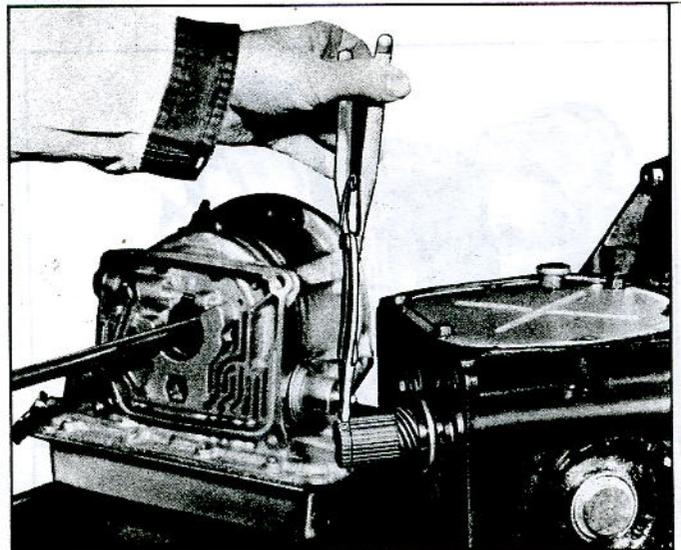

Fig. 10—Installing Rear Selective Spacer
- e. Install spacers selected on governor gear (fig. 10), then check that proper total thickness has been installed by again measuring with J-8364 as described in Step d. If shim stack is correct, indicator reading will now be between .025"—.045"; otherwise add or remove spacers until reading is within this range.